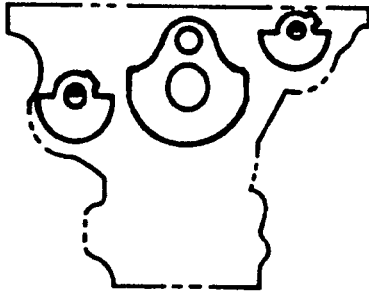

FIGURE 9-38. ORIENTATION OF BALANCE WEIGHTS AND CRANKSHAFT
3. Before installing the chain and sprockets, turn the crankshaft to place the No. 1 cylinder piston at bottom dead center. Note that the cylinder block is upside down and the balance weights and crankshaft are in the positions shown in Figure 9-38.